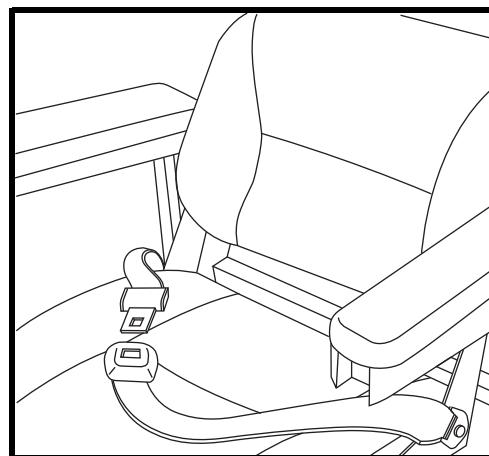

Figure 19. Positioning Belt
Your scooter seat may be equipped with an auto-type positioning belt that can be adjusted for operator comfort. See **figure 19**. The positioning belt is designed to help support the operator so that he or she does not slide down or forward in the seat. The positioning belt is not designed for use as a restraining device.
1. Insert the metal tab on the right side of the belt into the plastic housing on the opposite strap until you hear a "click." See **figure 19**.